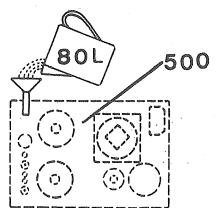

Fig 21
14. Fill the dielectric tank (500) with 20 American gallons* (80 litres) of dielectric fluid (fig. 21). The following dielectric fluids are recommended, though others having the same characteristics may be used :